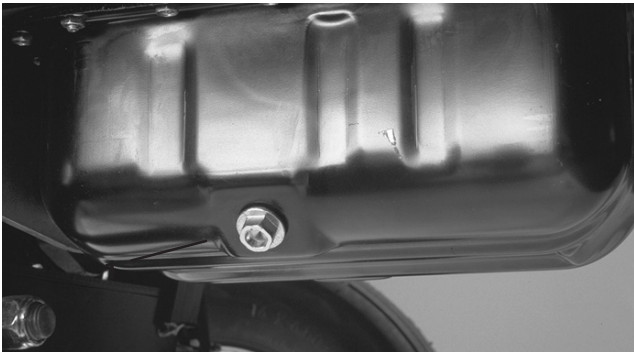

Figure 37
2. Open the hood. Set drain pan under the oil pan and in line with drain plug (Fig. 37).